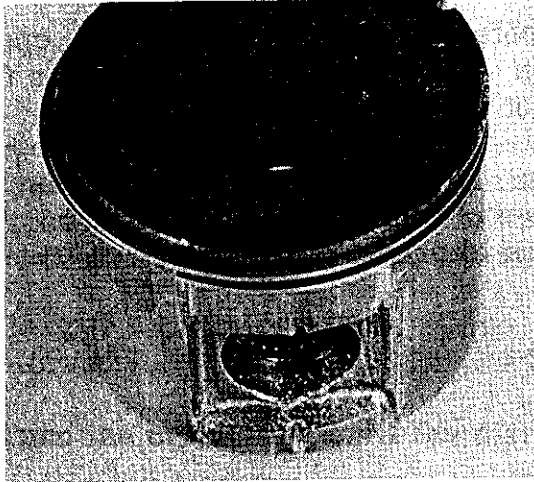
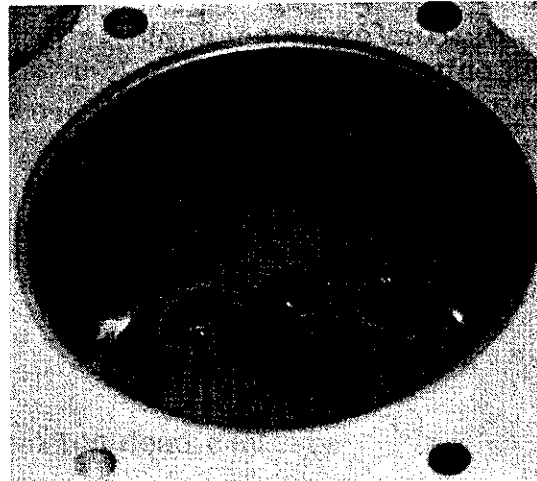

FIGURE 3
FIGURE 4
- B. The pin was caught by the piston and driven up and down until it worked free and fell into the crankcase. The grooves on the third-port side of the piston (figure 3) and on the third-port side of the cylinder (figure 4) show this.
7. Remove and inspect the two starter base bushings. If the bushings are damaged or worn, replace them with two new Bushings, P/N 57535. If the starter base does not have a keyway on each end of the bore (see Figure 3) to hold the key on the 57535 bushing, make one of the following two modifications:
- a. Using a small hacksaw and a flat file, notch a keyway wide and deep enough to take the key on the bushing, on each end of the starter base bore (Figure 3). This is the recommended method because the keyways prevent the bushings from turning and reduce bushing wear.